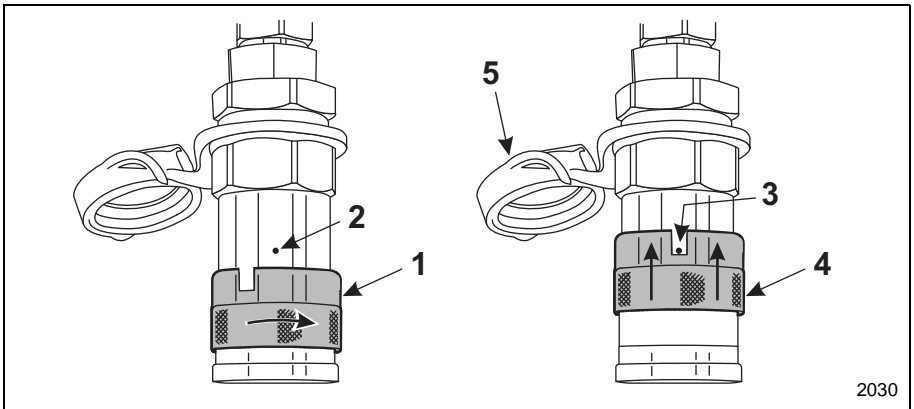

Figure 1-12 Quick Connect Locking Collar
3. Some of the female couplings will have a lock button preventing accidental disconnection. To release this type of quick connect, rotate the collar on the female quick connect (Item 1, Figure 1-12) to align the notch on the collar with the lock button (Item 2, Figure 1-12).
4. Slide the collar backwards on the female quick connect (Item 4, Figure 1-12) until it stops against the lock button. The male connector will be released. Move the attachment hose away from the bulkhead fitting.
7. Cover the hose connections with the dust caps (Item 5, Figure 1-12) and store the hydraulic hoses to prevent damage.